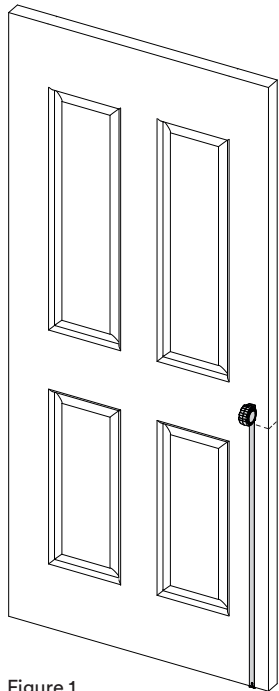

Figure 1.
- 1.1. Mark the edge of your door at the desired height of your escutcheon. This will generally be 85mm CTC (Centre to Centre) from the centre of the spindle hole of the door lever to the centre of the key hole.* (Figure 1)